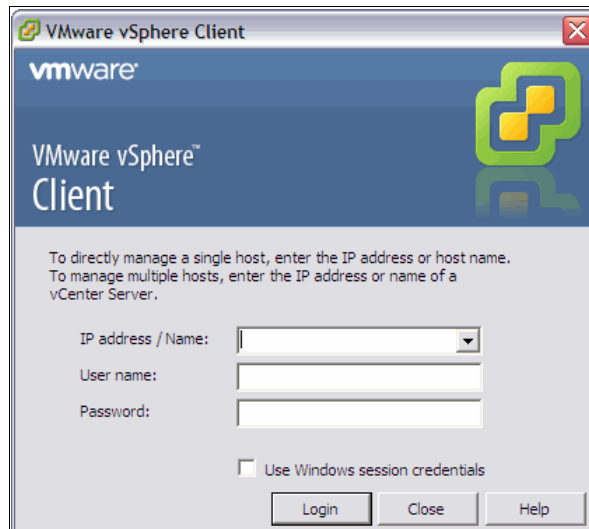

Figure 3-91 VMware vSphere Client Interface
15. After finishing these steps, your server is ready to be accessed by the VMware administration interface, such as the VMware vSphere client or CLI interface. We use the GUI interface for access, as shown in Figure 3-91.